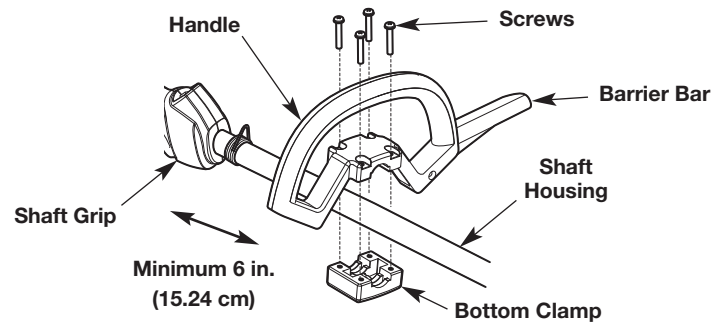

Fig. 3
1. Use a large flat-head screwdriver or a T-25 Torx screwdriver to remove the four (4) screws and bottom clamp from the handle.
4. Insert the four (4) screws through the handle and into the bottom clamp.
6. While holding the unit in the operating position (Fig. 15), move the handle to the location that provides the best grip. Place it a minimum of 6 inches (15.24 cm) from the end of the shaft grip (Fig. 3).
2. While holding the unit in the operating position (Fig. 15), move the handle to the location that provides the best grip. Place it a minimum of 6 inches (15.24 cm) from the end of the shaft grip (Fig. 3).